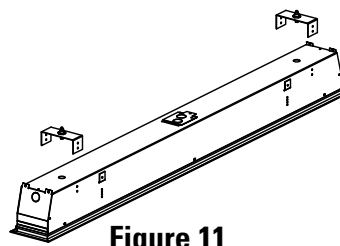
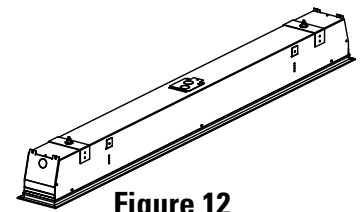

Figure 11
Figure 12
2. Install 2 quick-draw units to individual fixture by removing (2) 5/8" diameter knock-outs on top of housing. Slide in quick-draw unit and secure using (4) no. 8 screws. (Fig. 11 & Fig. 12)
2. Install 2 quick-draw units to starter fixture by removing (2) 5/8" diameter knock-outs on top of housing, slide in quick-draw unit and secure using (4) no. 8 screws. (Fig. 11 & Fig. 12)